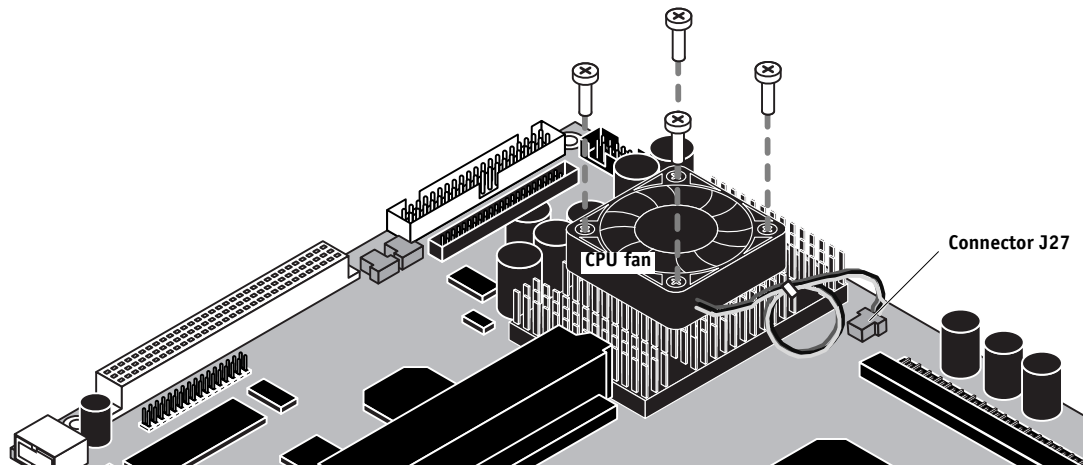

FIGURE 4-19 The CPU fan on the motherboard
2. Remove the CPU fan cable from iR-M1 board connector J27 (see Figure 4-19).